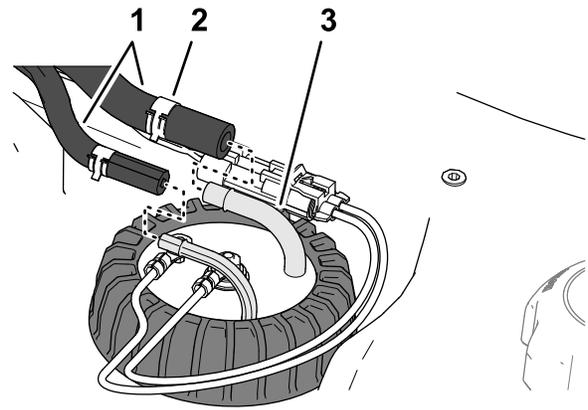

Figure 88
4. Move the clamps that secure the hoses to the fittings of the fuel sender inboard, and remove the hoses from the fittings (Figure 88).